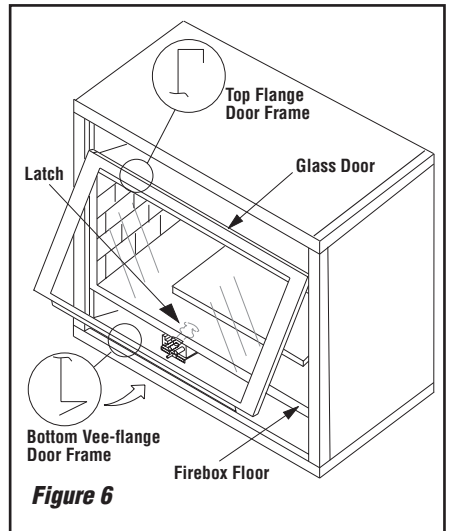

Figure 6
- 1 - Lower the bottom control compartment access panel. Remove the glass enclosure panel: open the latch (located in the center of the unit front opening, under the firebox floor) securing the glass enclosure panel. Remove the panel by tilting it outward at the bottom and lifting it up. Set the door aside protecting it from inadvertent damage. See **Figure 6 on Page 8.**
Refer to *Figure 6* and remove the front glass enclosure panel as follows: